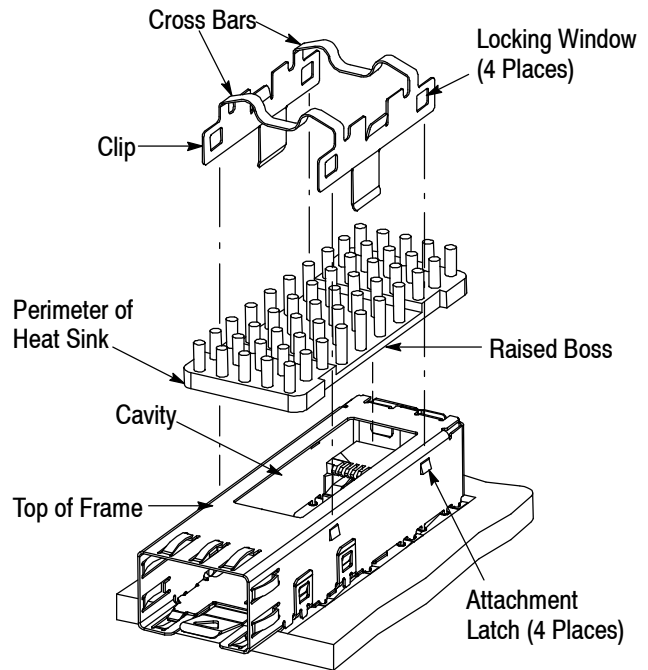

Figure 5
6. If applicable, secure the heat sink to the cage assembly as follows (refer to Figure 5):